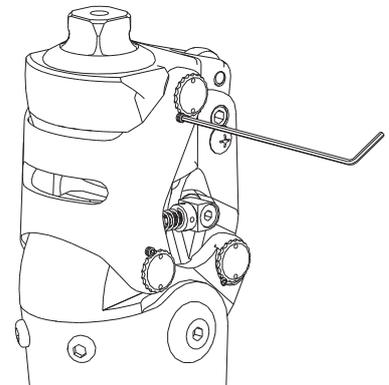

Fig.4
2. Remove the locking screw using a hexagonal wrench (1.5mm). (See Fig.4.)